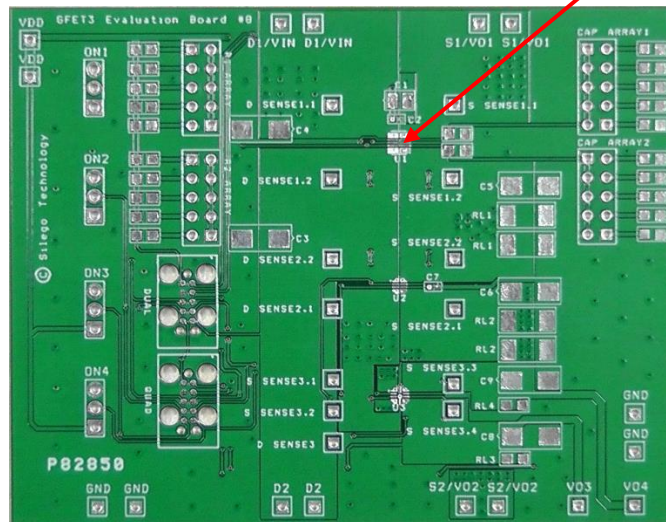

Figure 3. SLG59M1526V Evaluation Test Board
2.3. The D and S pins carry significant current. Please note how the D and S pads are placed directly on the power planes in Figure 3, which minimizes the RDS(ON) associated with long, narrow traces. The D and S pins dissipate most of the heat generated during high-load current condition. The layout shown in Figure 3 is illustrating a proper solution for heat to transfer as efficiently as possible out of the device.